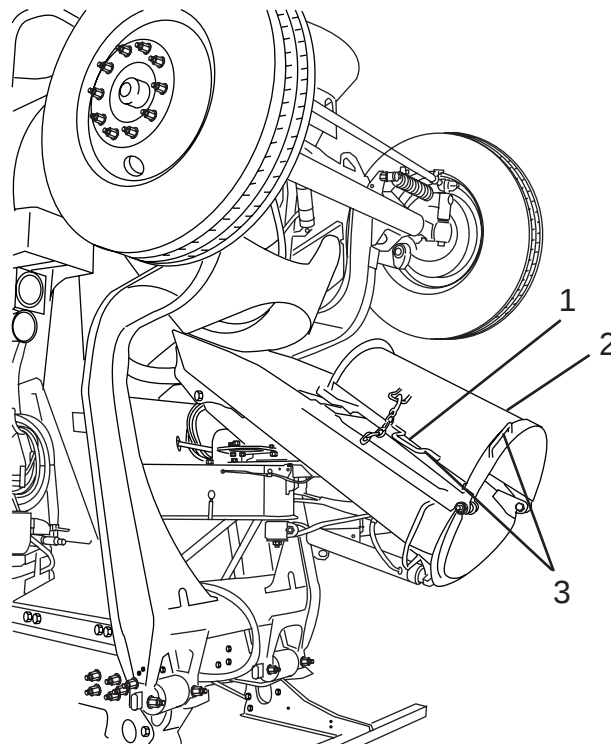

Figure 105
2. Disconnect the retaining chain (Figure 105, Item 1) from the fold-over chute (Figure 105, Item 2).
3. Grasp the fold-over chute by the handles (Figure 105, Item 3), and pivot the fold-over chute down until it firmly engages the main chute.